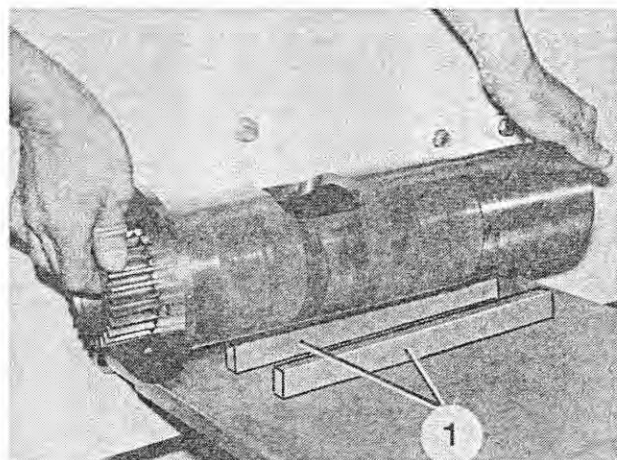

Fig. 210
13.1 When machines with a worm trough are used, place the rotary cylinder between the support sledges (Figure 210/1) and clean it.
The rotary cylinder must only be placed in the support sledges (Figure 210/1).